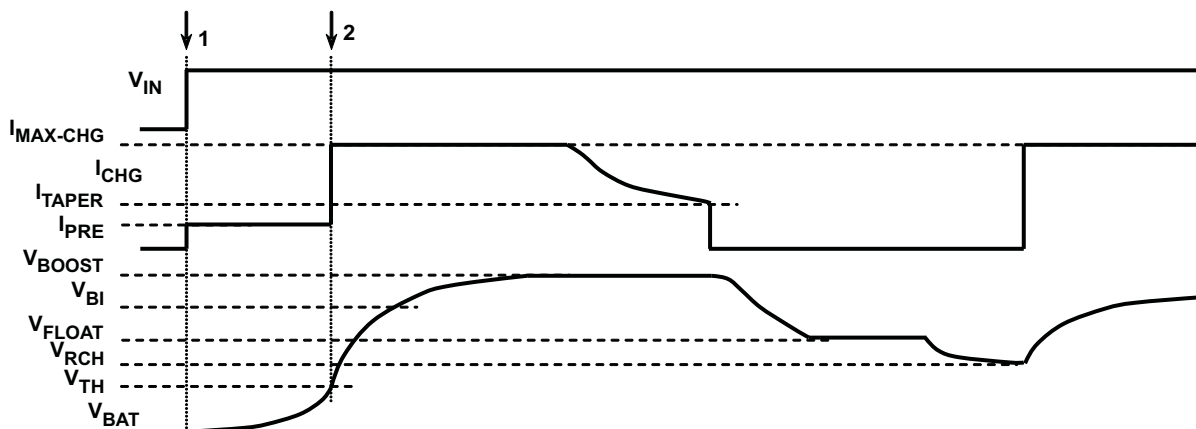

Figure 6.
Once the battery voltage rises above a safe threshold V_{TH} at (2) in Figure 6, the enable comparator turns OFF Q3 and Q4, thus turning OFF Q5 and enabling Q1. Q_{EXT} then provides $I_{MAX-CHG}$, and the circuit after this performs as described before.